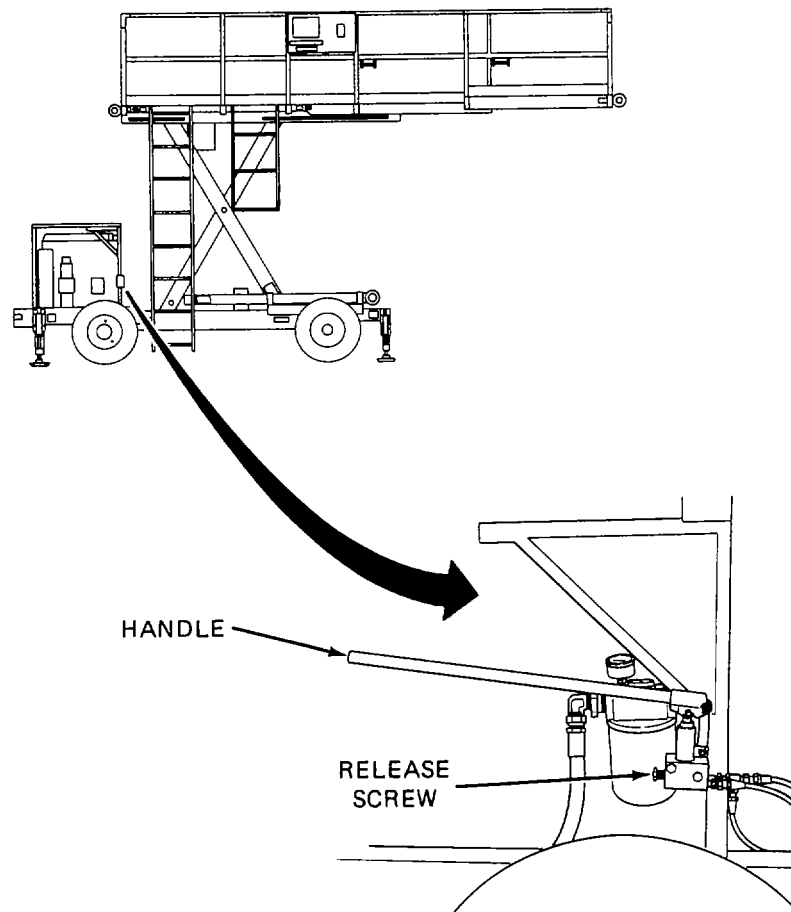

Figure 2-35. Emergency Hand Pump.
- a. Turn the release screw fully clockwise. See Figure 2-35.